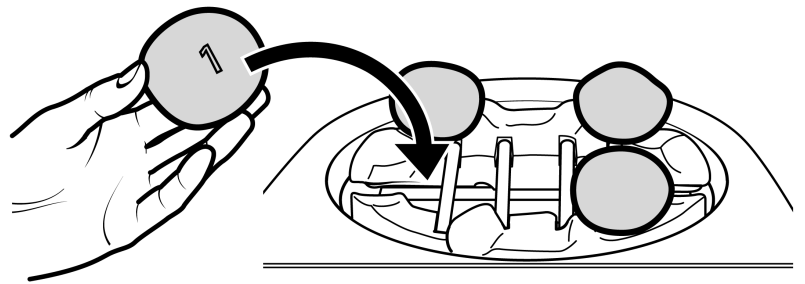

Figure 30 Pebble number '1' Location
4. There are four pebbles numbered '1' on the underside. Locate these onto the pebble base at the ends of the outer left and right hand ceramic support rods (See figure 30).